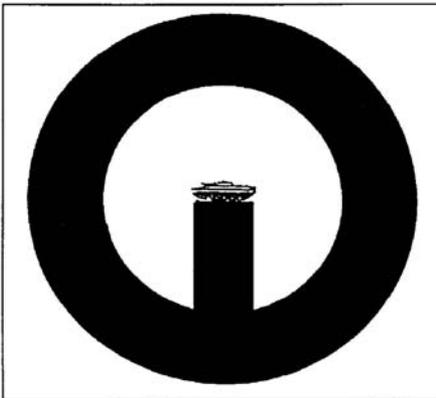

Figure 071-313-3454-7. Correct sight picture
3. Apply the correct engagement technique based on the target type (figure 071-313-3454-8).